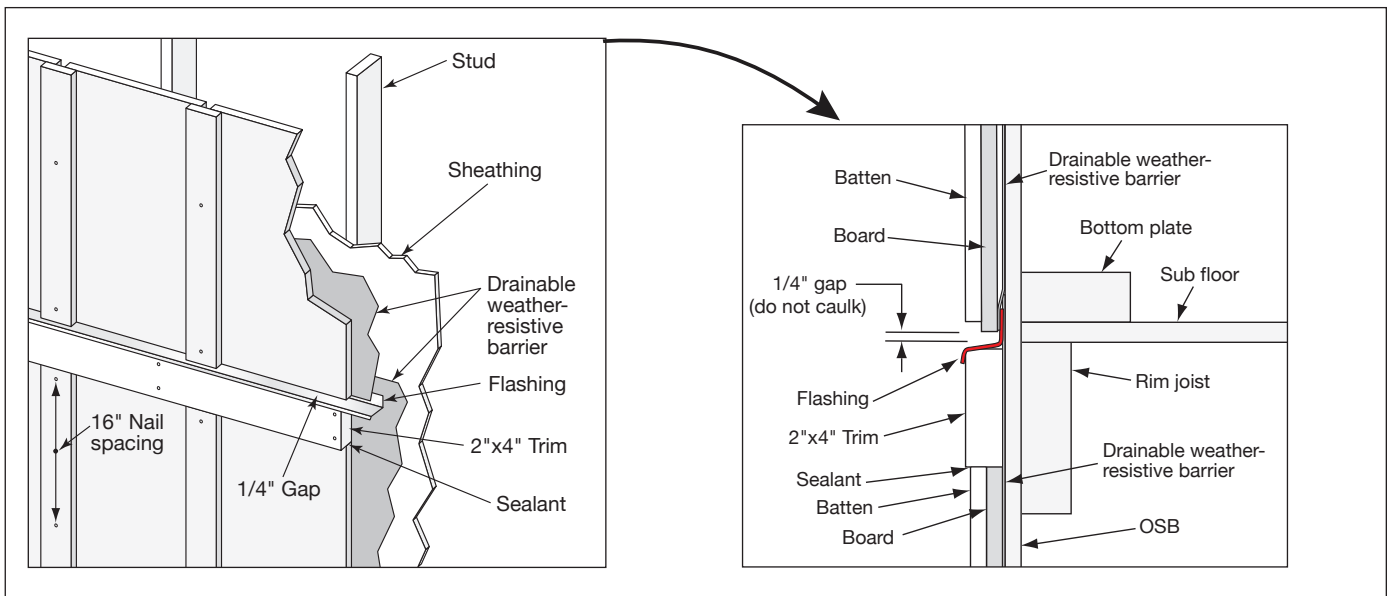

Fig. 43
- TruExterior recommends to break the Board and Batten below the subfloor level on new construction (**Fig. 43**)
- Use a piece of z-flashing tucked under the drainable weather resistive barrier that extends to the front face of your horizontal trim (**Fig. 43**)
- Seal the bottom joint where belly band trim connects with the board and battens (**Fig. 43**)